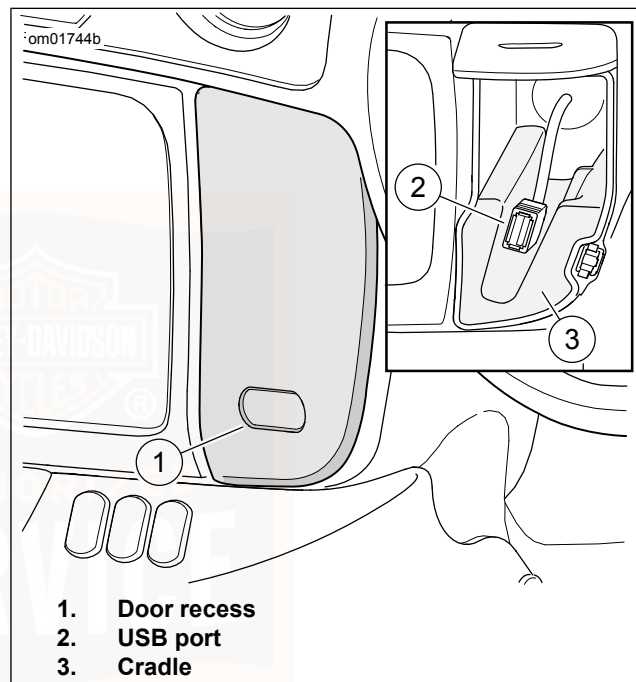
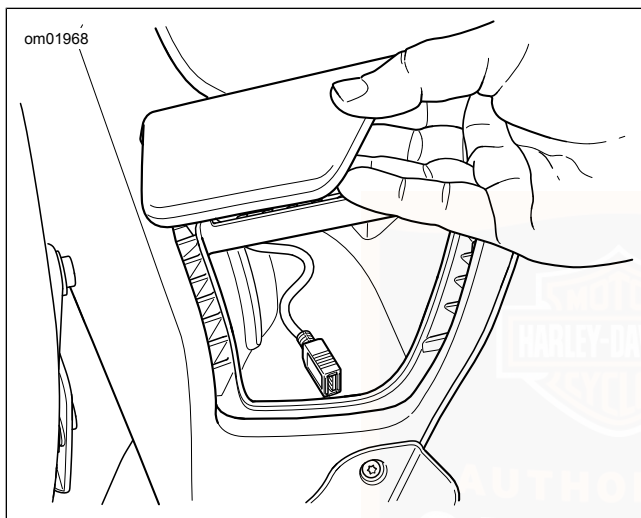

Figure 43. Media Compartment: FLHTCUTG
Figure 44. Media Compartment: FLTRT
See Figure 43 or Figure 44. The Jukebox media compartment is an enclosure in the dash which may be used to connect a media device or store small items. Media players and USB storage devices with media files can be connected to the USB port. Radio system updates are also performed through a USB storage device.
- **FLHTCUTG:** See Figure 43. Push lower portion of door and release.
- **FLTRT:** See Figure 44. Lift media compartment door.